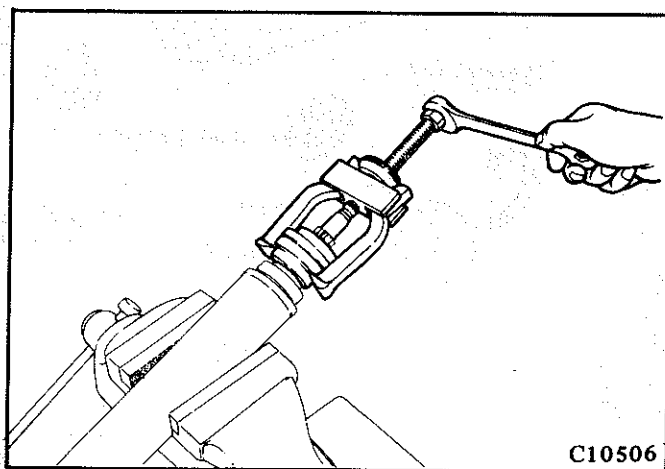

Fig. 5—Removing the centre bearing
- (3) Remove the centre bearing retaining nut and mark the yoke and splined shaft for ease of fitment.
- (4) Remove the centre bearing bracket from the bearing.
- (5) Using a puller remove the bearing from the shaft. (Refer Fig. 5).